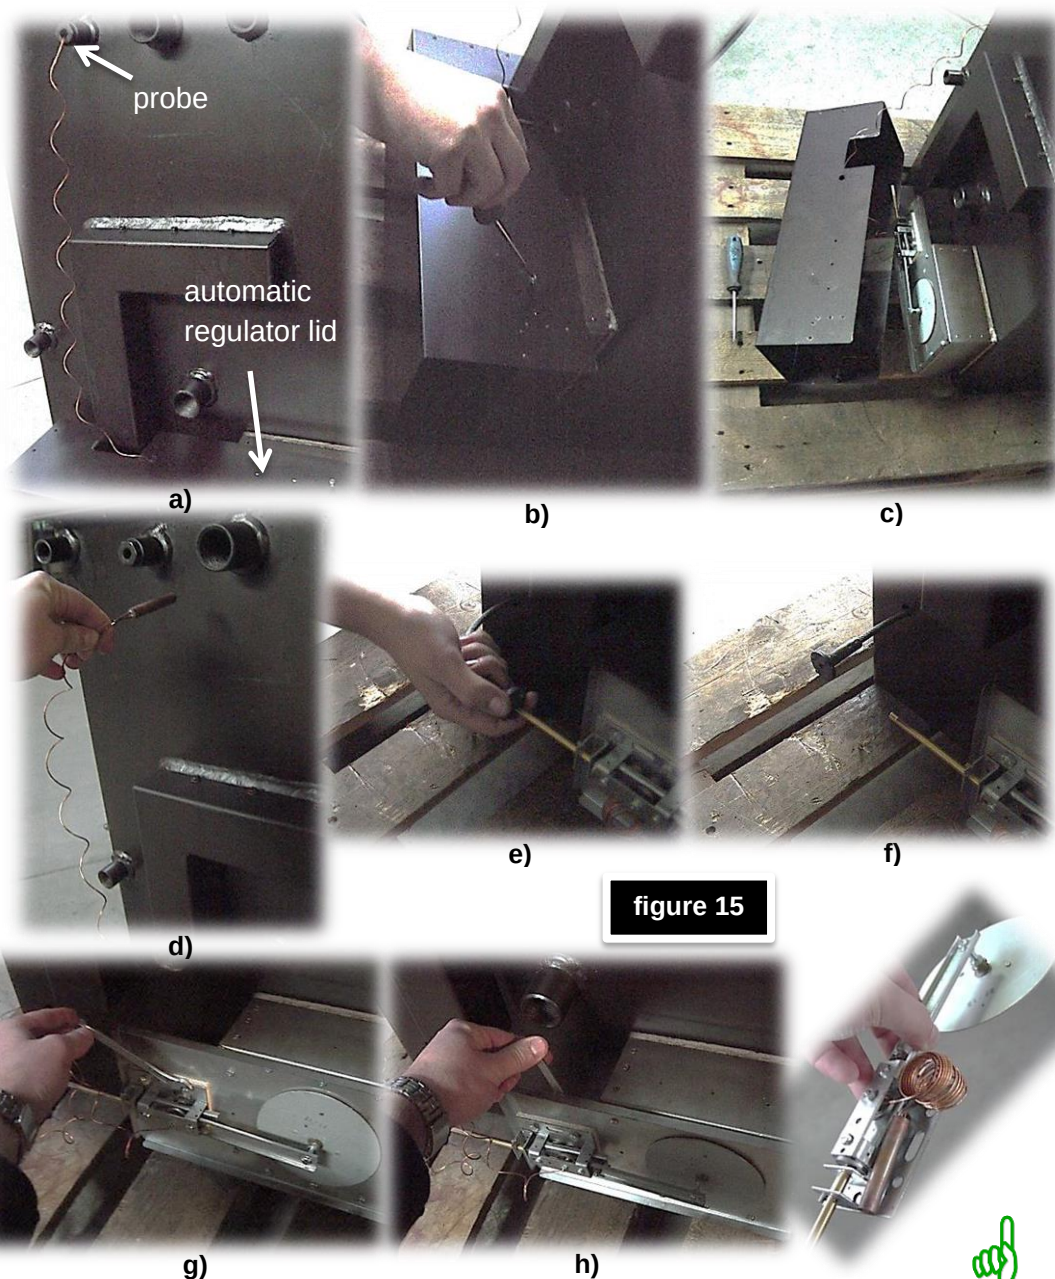

figure 15
- pull out the probe from the boiler – Figure 15 d,